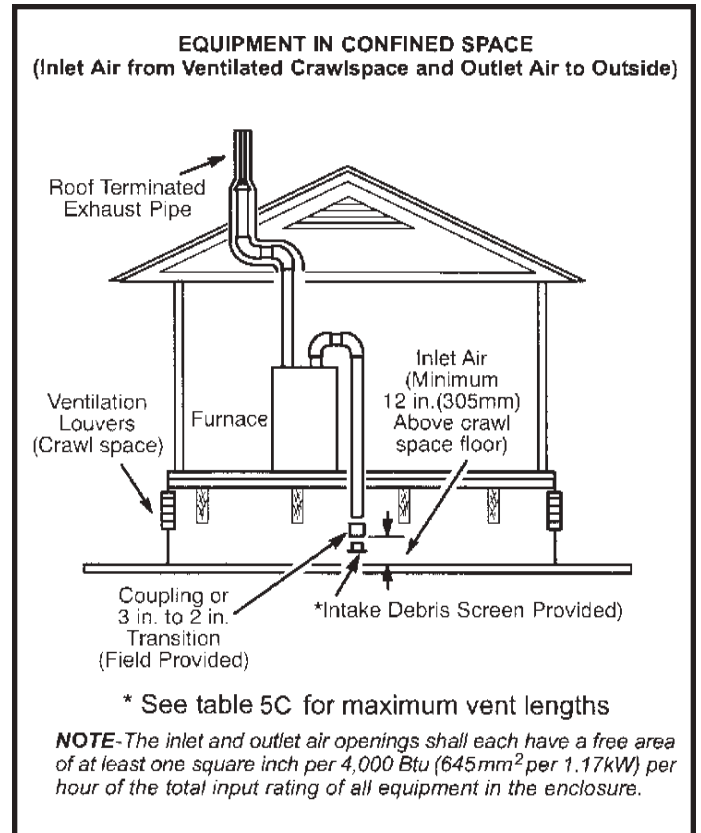

Figure 30
2. If intake air is drawn from a ventilated attic (Figure 28) or ventilated crawlspace (Figure 30) the exhaust vent length must not exceed those listed in Table 5C. If 3" diameter pipe is used, reduce to 2" diameter pipe at the termination point to accommodate the debris screen.